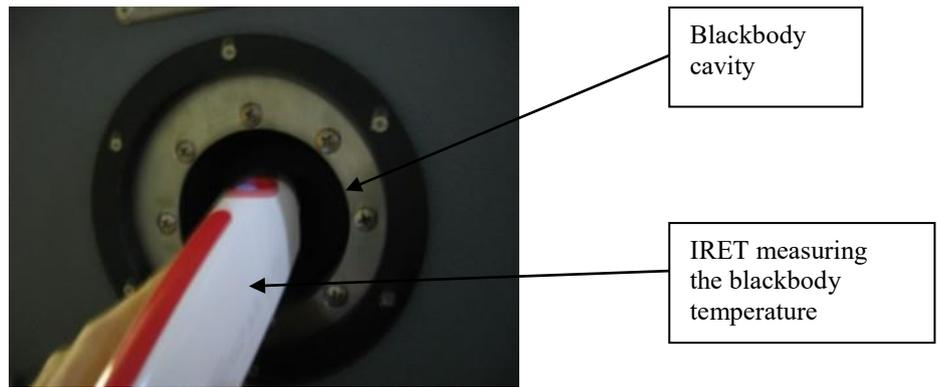

Figure 17: Measuring temperature of the blackbody
To measure temperature of the blackbody the IRET has to be positioned like in Figure 17. It has to be placed as deep as possible in the blackbody cavity, but not touching the edges of the cavity.
- After the first reading has been taken, repeat the procedure for other readings (place the IRET like in Figure 17, then press and hold the Activation button...),third...